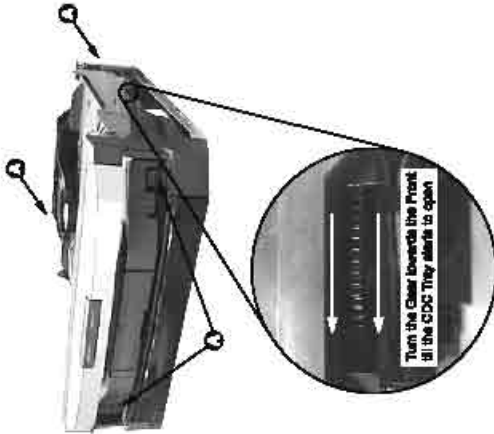

Figure 2
- 1) Loosen the 4 screws, slide Cover top (pos 256) towards the rear and remove it upwards.
- 2) Loosen 3 screws slide the Panel right (pos 254) towards the rear and remove it outwards. Do likewise for the Panel left (pos 253).
- 3) Push the gear slowly towards the front as shown in figure 2 until the CDC tray starts to move out of the Front Cabinet (pos 101). The CDC tray is now disengage and can be pulled out completely.
- 5) Loosen 4 screws A to remove the SCDC-LC-VCD Module (pos 1104) as shown in figure 2.